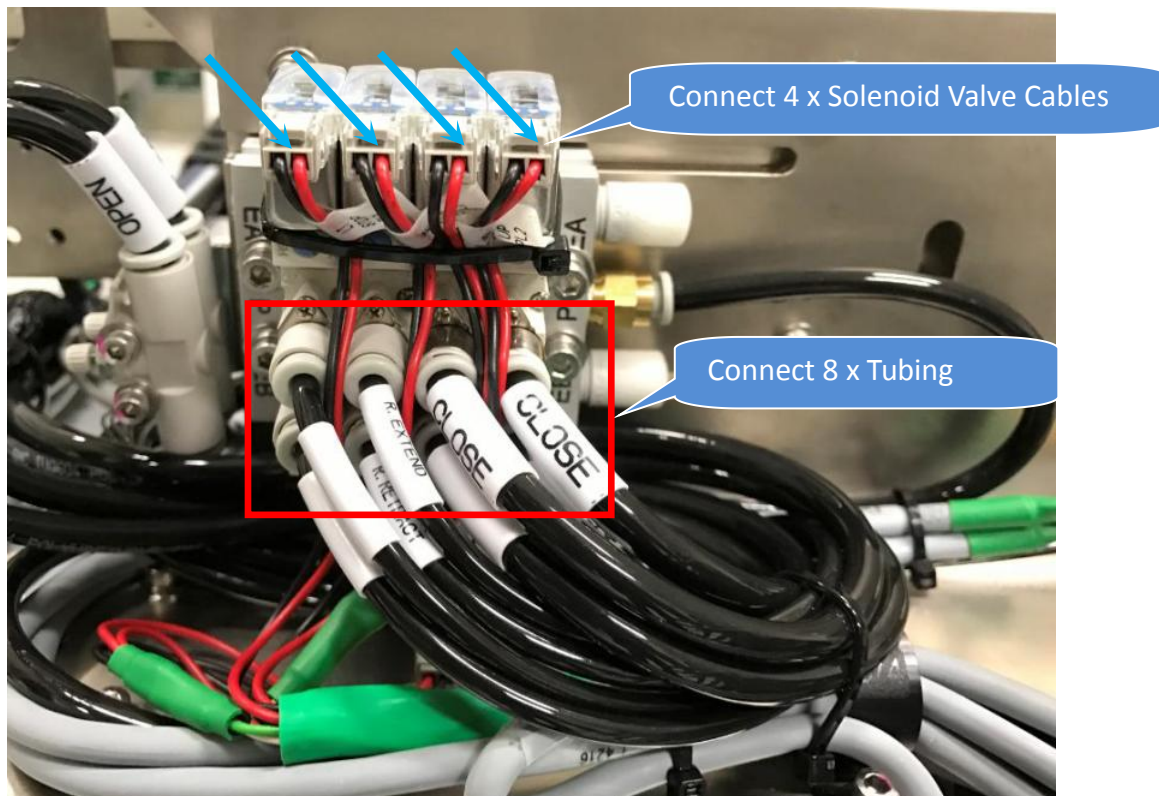

Figure 11 Cable & Tubing Removal
9. Connect 6 x Solenoid Valve Cables (Figure 11 &12) and 8 x Tubing to origin position by refer to Table 1.